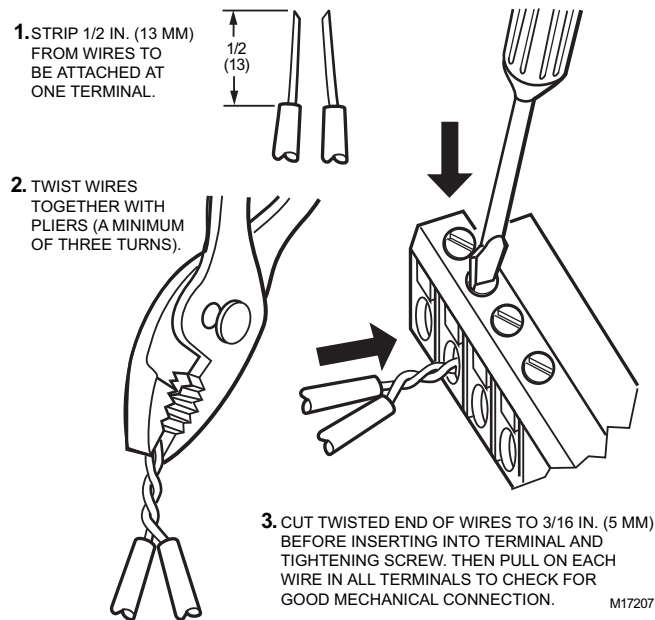

Fig. 12. Attaching two or more wires at terminal blocks.
NOTE: When attaching two or more wires to the same terminal, other than 14 AWG (2.0 sq mm), be sure to twist them together. Deviation from this rule can result in improper electrical contact (see Fig. 12).
3. If two or more wires are being inserted into one terminal location, twist the wires together a minimum of three turns before inserting them (see Fig. 12).